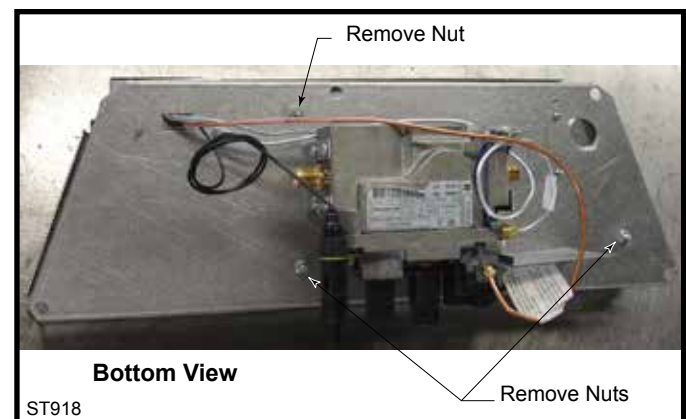

Fig. 81 Remove three (3) nuts securing ember bed in place.
1. Remove three (3) 3/8" nuts on bottom side of burner pan. (Fig. 81)
2. Thread and tighten 3/8" nuts back onto pem studs on underneath side of control panel, reversing Step 1 shown in Figure 81.